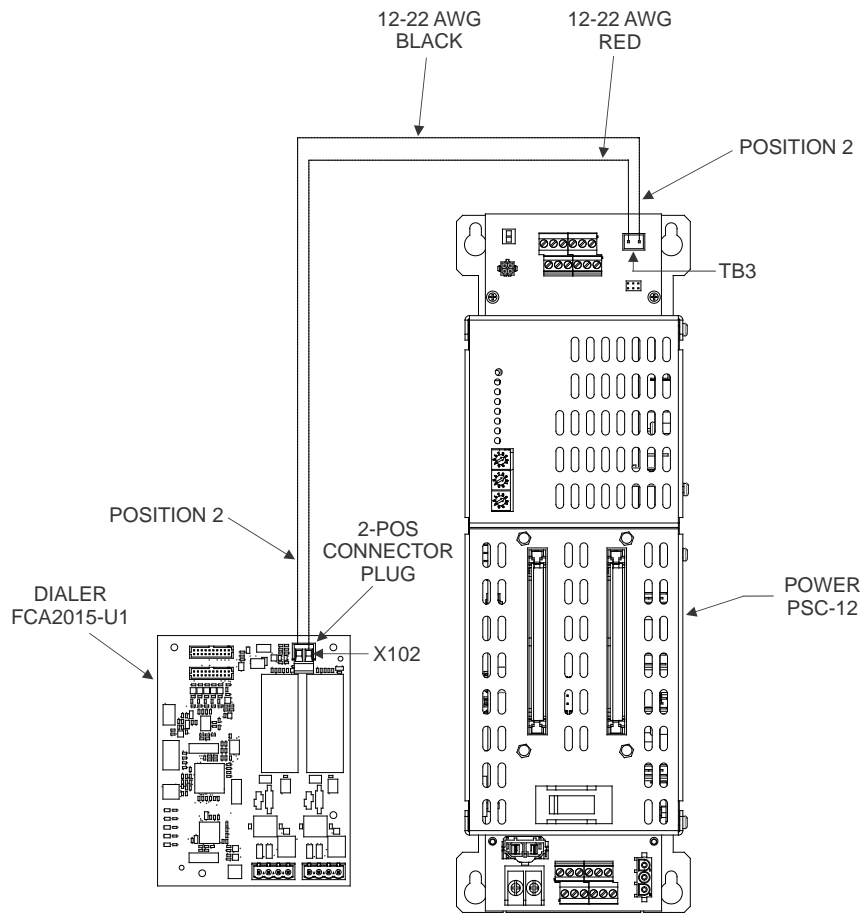

Figure 2 – Power Connection to Dialer
6. Plug the 2-pos connector provided into the dialer as shown in Figure 2. Use two 12-22 AWG wires to connect it to the power supply. Connect the black wire from connector TB3 “Position 2” to the connector on the dialer X102 “Position 2”. See Figure 2.